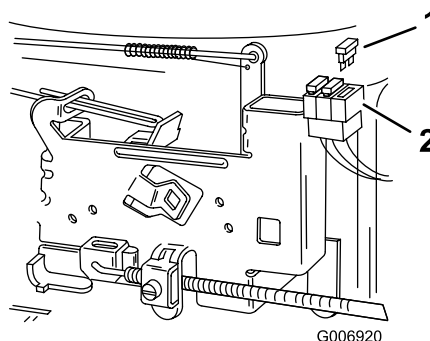

Figure 28
1. Pull up on the fuse (Figure 28) to remove it from the socket.